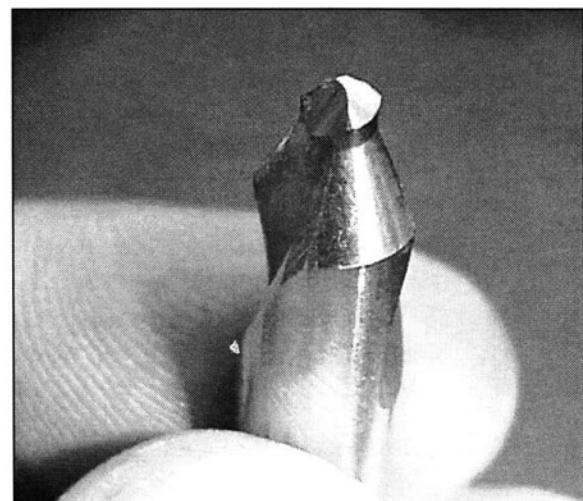

FIGURE 7-24 The tips of center drills have less tendency to break if they are ground to about half the factory ground length.
31. *Shorten the tips of center drills. (See Fig. 7-24)*